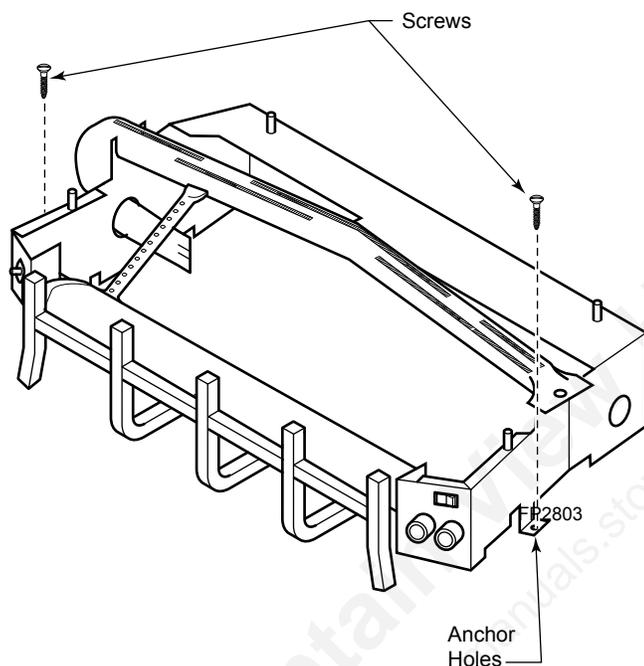

Figure 13 -
2. Anchor holes are located on the right and left sides of the unit. After centering the grate correctly, mark the hole positions on the fireplace/firebox floor. Drill two (2) 5/32" diameter holes approximately 1-1/2" deep.
3. Anchor the grate to the fireplace/firebox floor using the screws provided. *Figure 13*